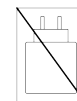

Figure 2
- 2 Plug the other end of the USB cable into a USB port on your computer or into a USB-C 5V wall charger (not included, see Figure 2).